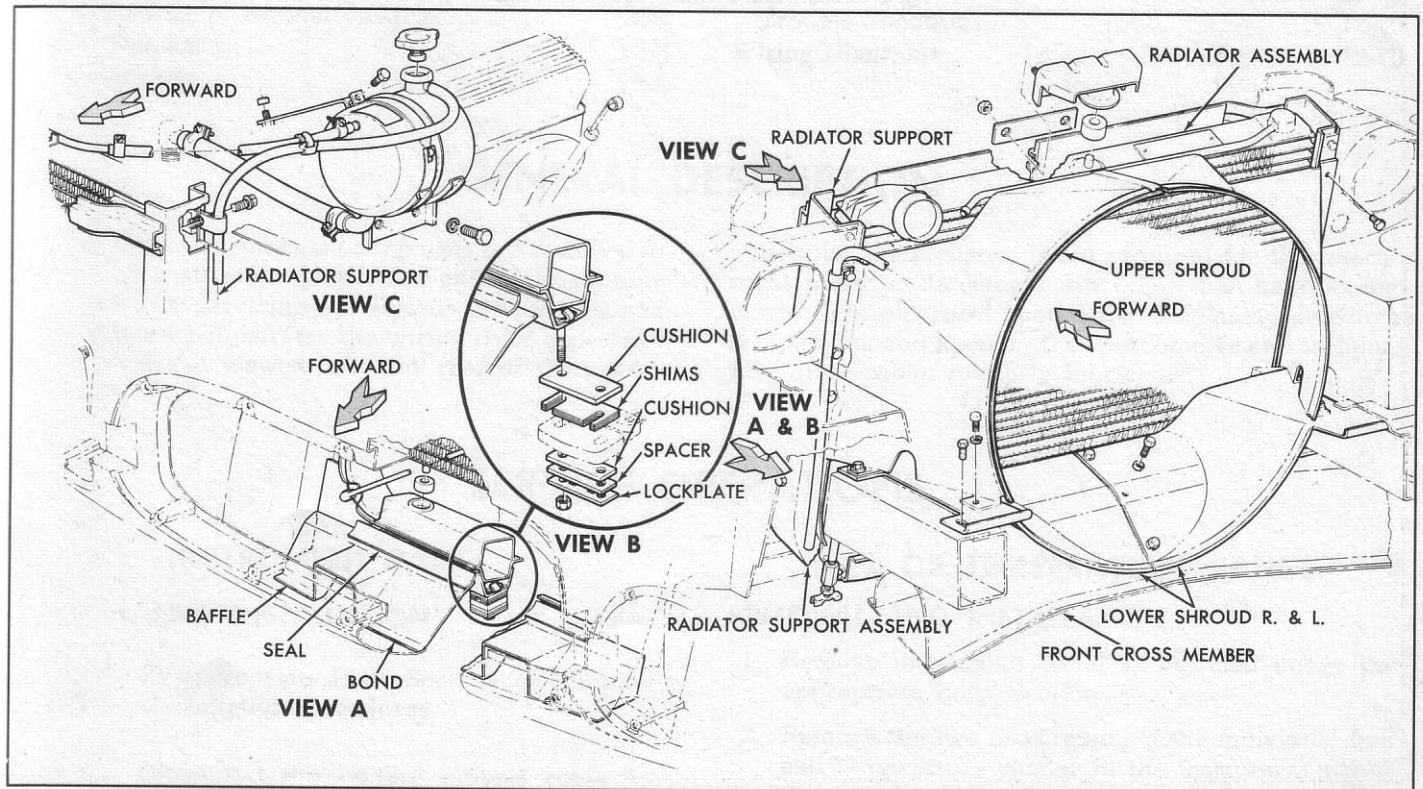

Fig. 16—Radiator, Support, Tank, Lower Baffle and Shrouds
6. Remove steering idler and third arm assembly nuts at the bottom of the radiator support (fig. 16).